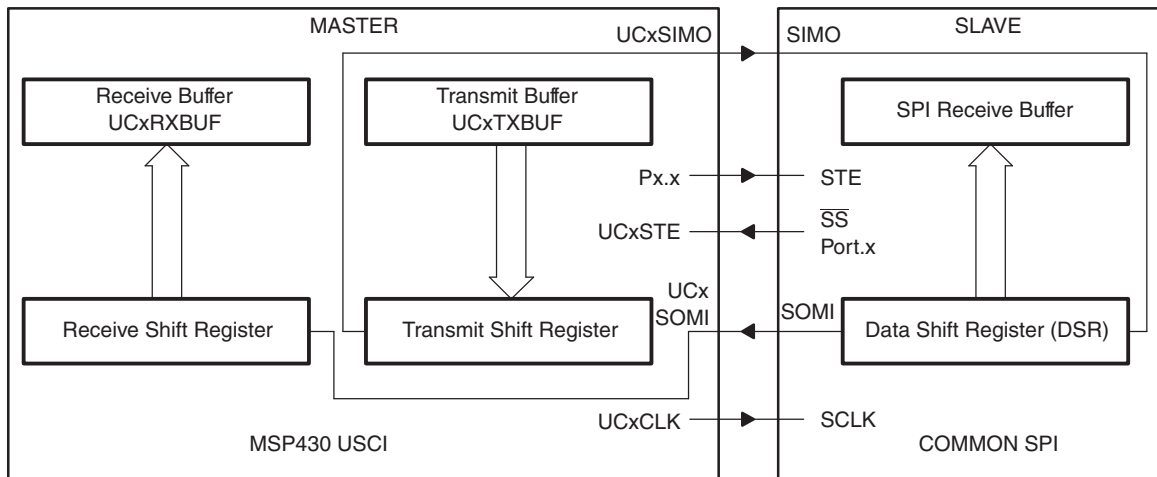

Figure 25-2. USCI Master and External Slave
Figure 25-2 shows the USCI as a master in both 3-pin and 4-pin configurations. The USCI initiates data transfer when data is moved to the transmit data buffer UCxTXBUF. The UCxTXBUF data is moved to the transmit (TX) shift register when the TX shift register is empty, initiating data transfer on UCxSIMO starting with either the MSB or LSB, depending on the UCMSB setting. Data on UCxSOMI is shifted into the receive shift register on the opposite clock edge. When the character is received, the receive data is moved from the receive (RX) shift register to the received data buffer UCxRXBUF and the receive interrupt flag UCRXIFG is set, indicating the RX/TX operation is complete.